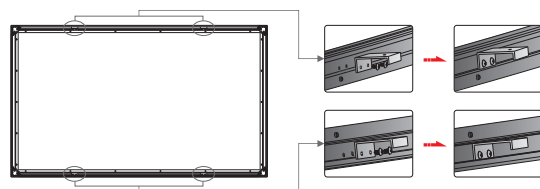

Figure 8
- Each screen is equipped with 4 brackets labelled 1,2,3,4; and thus the concave frame has relevant marks of 1, 2, 3, 4. When installing the brackets, use the $\phi 5 \times 10\text{mm}$ screws to fix the bracket 1* to mark 1* on the concave frame. Do the same for bracket 2*, 3* and 4*. (Figure 8). Make sure the screws are tightly fastened.